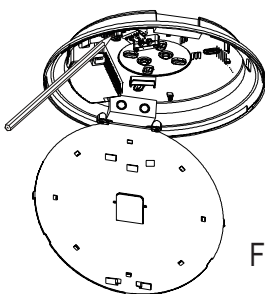

Fig.7
- Step4 Put the base of the product on the ceiling to make the drilling mark. (as fig.7)